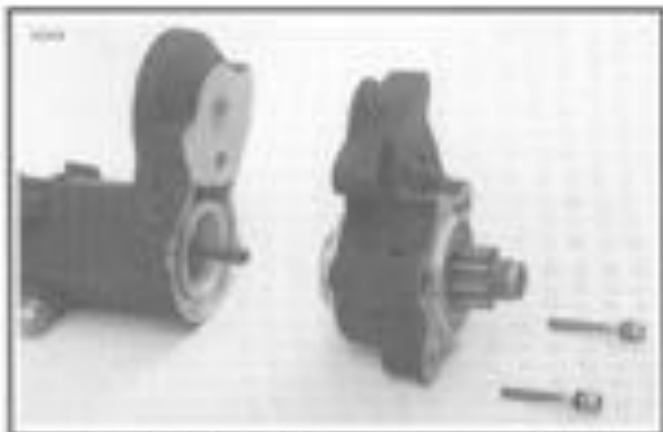

Figure 5-20. Removing Starter Drive Housing
16. Figure 5-20. Remove two drive housing mounting screws (with washers and lockwashers). Remove drive housing from solenoid housing.